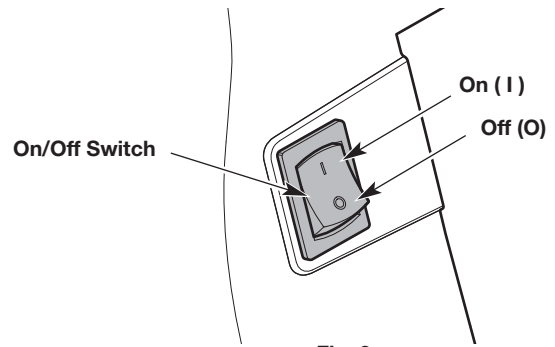

Fig. 9
NOTE: There is no need to turn the unit on. The On/Off switch is in the **On (I)** position at all times (Fig. 9).
2. Press and hold the On/Off switch in the **Off (O)** position until the engine comes to a complete stop (Fig. 9).